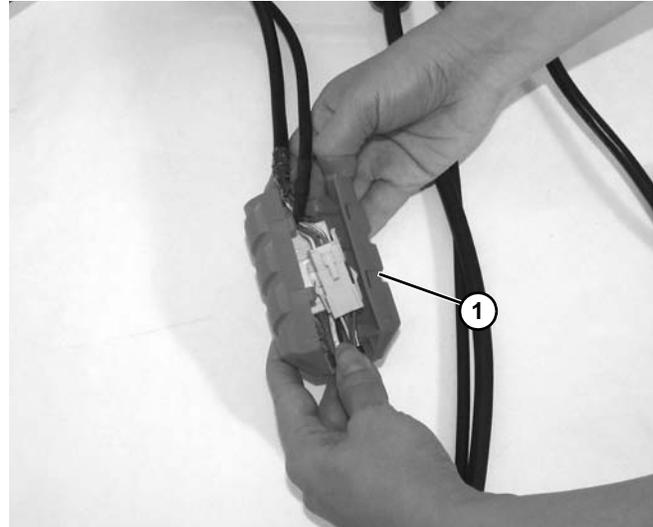

Figure 42
3. Open inner cord cover (**Figure 42, item 1**).